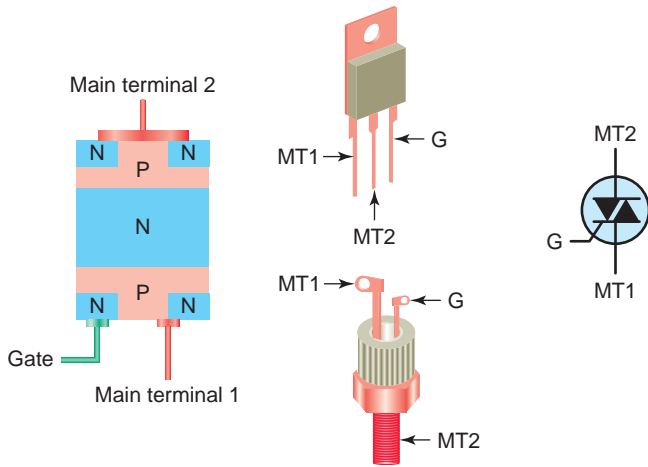

Figure 9-32 Triac.
The triac is a three-terminal device essentially equivalent to two SCRs joined in reverse parallel (paralleled but with the polarity reversed) and with their gates connected together. The result is a bidirectional electronic switch that can be used to provide load current during both halves of the AC supply voltage. Triac connections, shown in Figure 9-32, are called main terminal 1 (MT1), main terminal 2 (MT2), and gate (G). The leads are designated this way since the triac acts like two opposing diodes when it is turned on and neither lead always acts like a cathode or an anode. Gate current is used to control current from MT1 to MT2. From terminal MT1 to MT2 the current must pass through an NPN series of layers or a PNP series of layers. The gate is connected to the same end as MT1, which is important to remember when you connect the triac control circuit. Terminal MT1 is the reference point for measurement of voltage and current at the gate terminal.